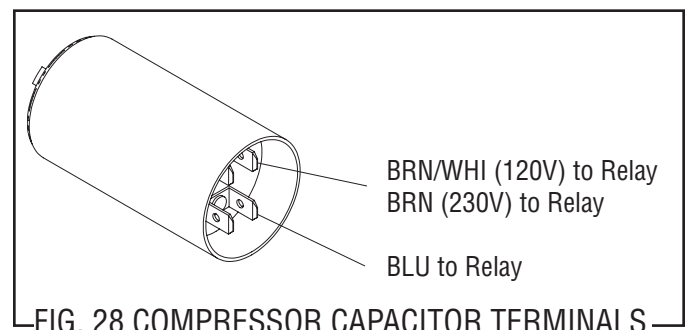

FIG. 28 COMPRESSOR CAPACITOR TERMINALS
1. Remove terminal cover (4).
6. Refer to Fig. 28 and reconnect the wires.